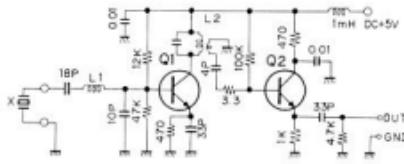

Fig. 9. OSC Circuit
- Oscillator circuit and output (Fig. 9)